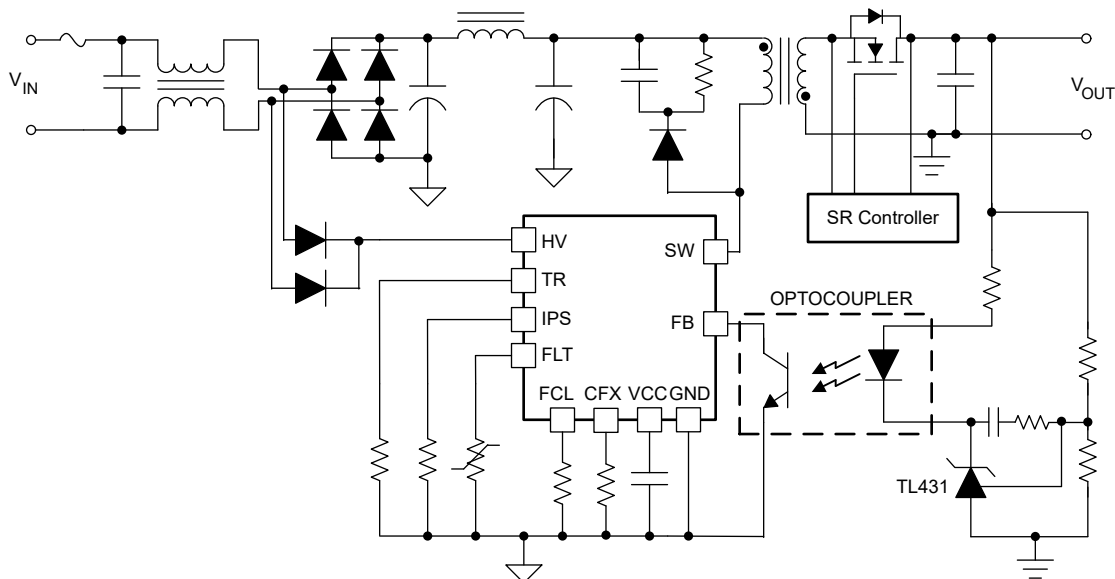

Figure 7-1. AC/DC Flyback Converter Schematic using UCG2883x/4x
Connect the high voltage (HV) pin to the two ends of the X-capacitor at the line input, through two diodes as shown in Figure 7-1. HV pin charges the bias supply (VCC) capacitor at start-up. The HV pin also discharges the X-capacitor when the input line voltage is removed. When X-cap discharge is not needed, this connection is still required to minimize the standby power consumption. The UCG2883x/4x device charges VCC capacitor through HV pin during standby mode, when the Flyback converter operates in the deep burst mode with long idle period. The charge current can be smoothed out using a resistor (less than 510Ω) in series with the HV pin. When designing for DC input applications, the HV pin can be directly connected to the input bulk capacitor with corresponding resistor setting on the CFX pin to disable the X-cap discharge feature. Due to the lack of line voltage zero crossing, the standby power consumption is slightly increased in DC input applications.